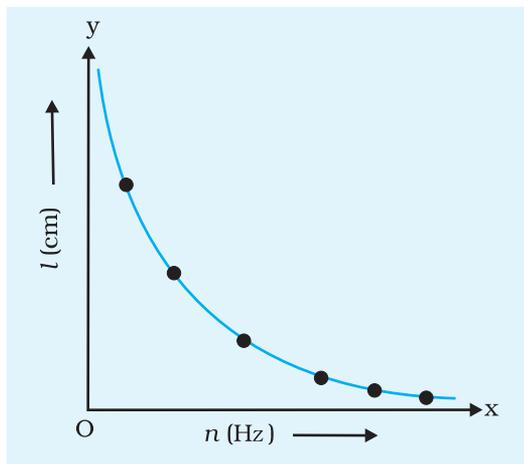

Fig. E 15.2: Variation of resonant length with frequency of tuning fork
5. Repeat the above procedures for other five tuning forks keeping the load on the hanger unchanged. Plot a graph between n and l (Fig. E 15.2)